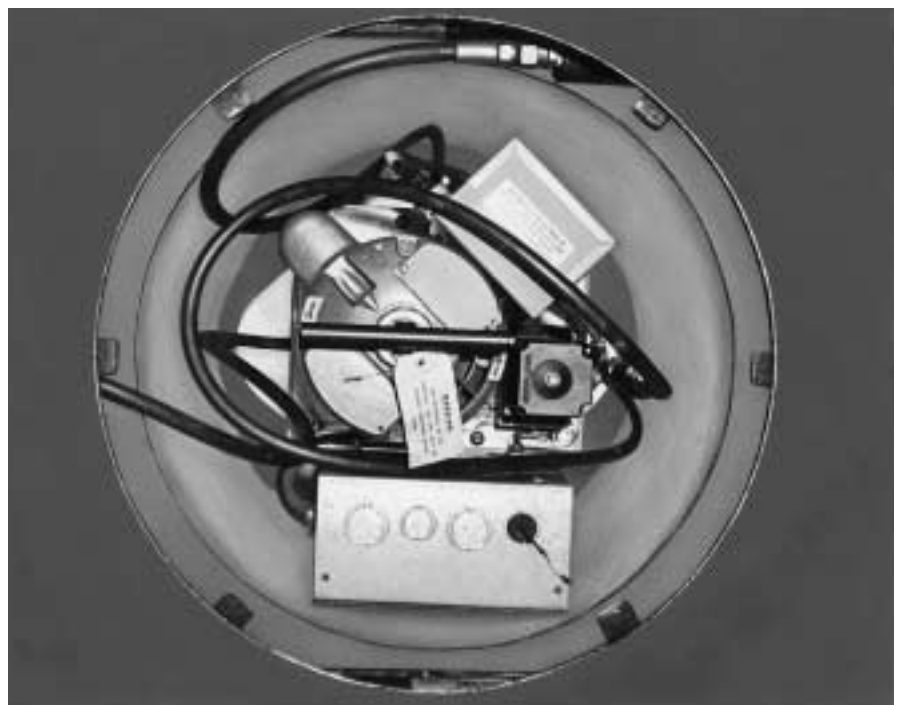

Figure 21
4. Position hydraulic lines similar to what is shown in Figure 21.